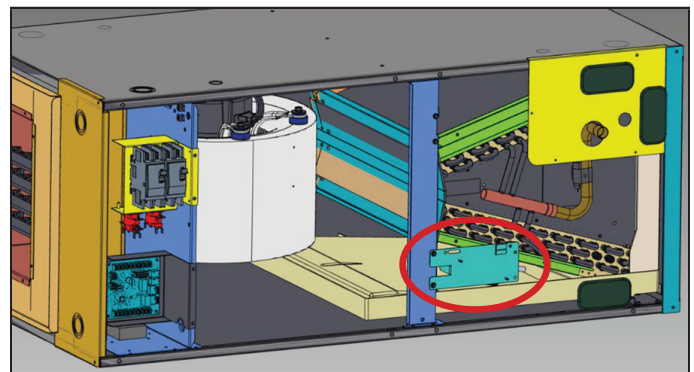

FIGURE 29
- 3 - After coil assembly and center support bracket are reinstalled into unit, with air handler unit panels removed, install sensor bracket assembly to the center support bracket by lining up the holes as shown in FIGURE 29.